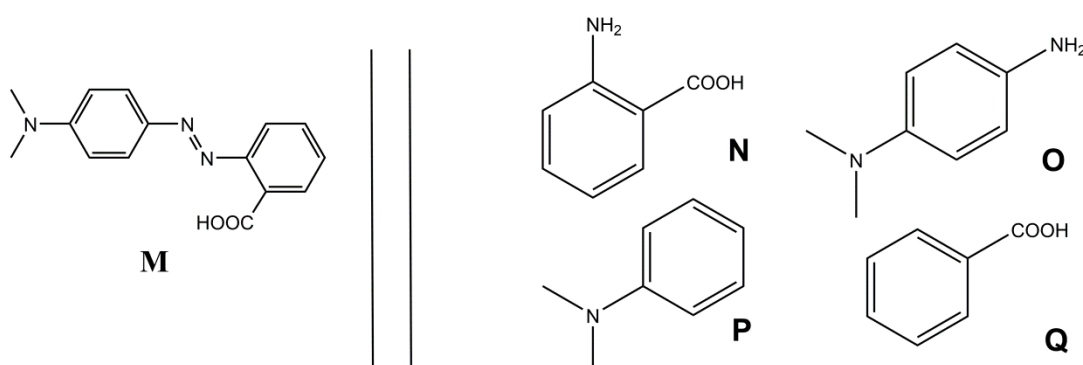

Fig. 1 – Possible reactants for the synthesis of **M**.
2. **M** can be synthesized in two steps from simple reactants (Fig. 1). **Choose** among the suggested reactants (**N** to **Q**) the ones that can provide **M** with very high regioselectivity. Sodium nitrite ( $\text{NaNO}_2$ ) in cold aqueous hydrochloric acid is used as reagent for the first step of the synthesis.